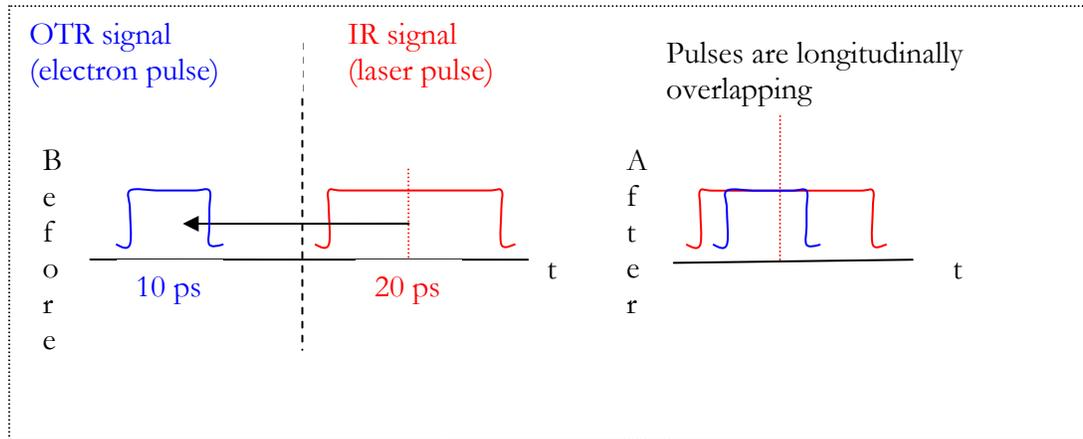

Figure 2 Path length adjuster photodiode timing system
8. **Photodiode timing system closed loop:** 2 Optical Transition Radiation (OTR) screens will be used to transversely align the IR beam to the electron beam pulse. Their insertion/extraction from the beam path will be via 1-D coarse position control. A digital camera and a photodiode signal will also be used in this alignment. The loop will have 100 ps resolution (the equivalent of a 10 GHz digitizer), see Figure 2, and using the input signals from both OTRs and the IR laser signal, the optical path will be adjusted by moving the path length adjuster in 2 such that the IR signal overlaps the OTR signal.